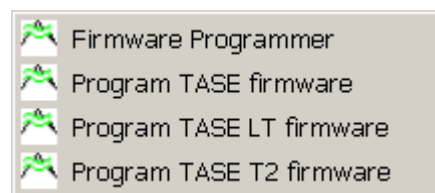

Figure 10 - Firmware Programmer Options
5. Select the **Firmware Programmer** option from the list shown in **Figure 10**. This opens the **Firmware Programmer** application and automatically starts the programming process.